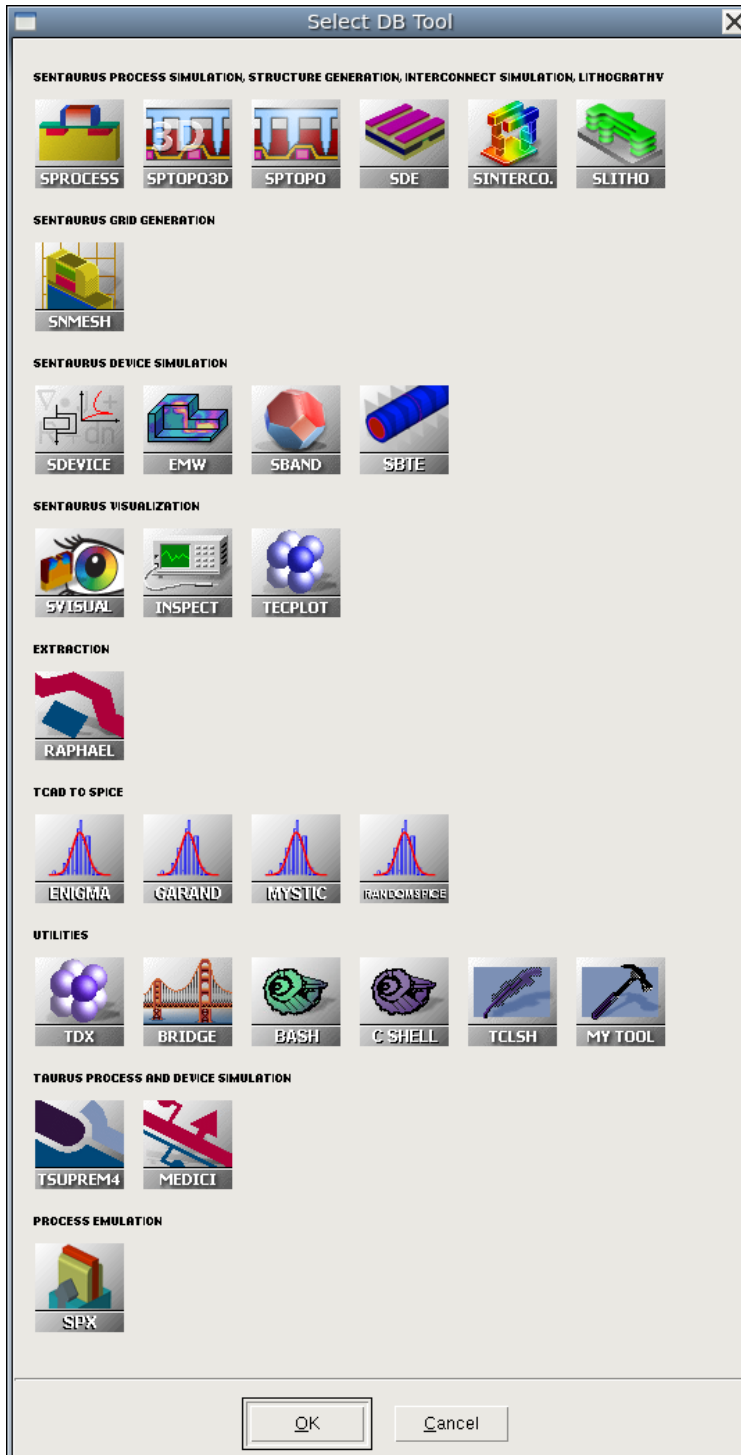

Figure 28 Select DB Tool dialog box showing supported tools
2. On the **Tool Properties** tab, select the tool from the **Name** list or click the **Tools** button to select the tool from the Select DB Tool dialog box (see Figure 28 on page 59).